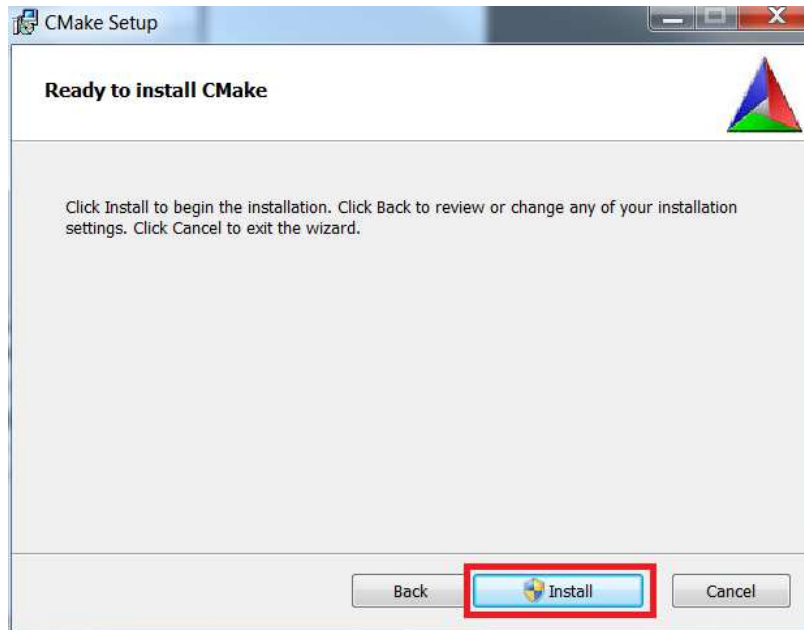

Figure 19. CMake Ready to Install
- Click "Install" as shown in Figure 19 and let CMake run.